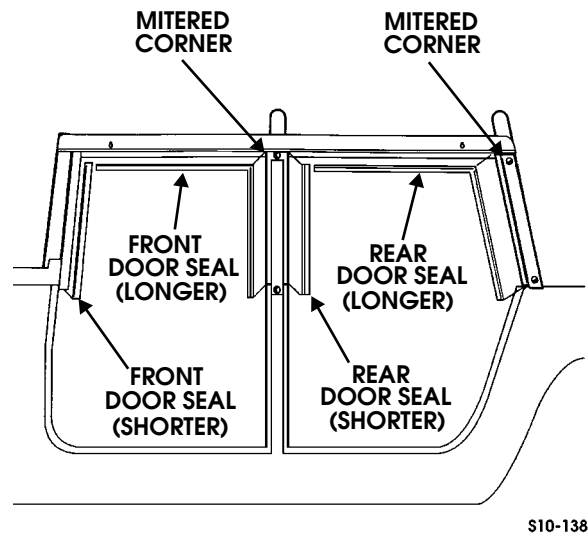

Figure 10-144: Door Seal Installation
8. Install shorter seals on front and rear door frames and cut ends to fit. Trim seals at bottom of wind deflector (Figure 10-144).